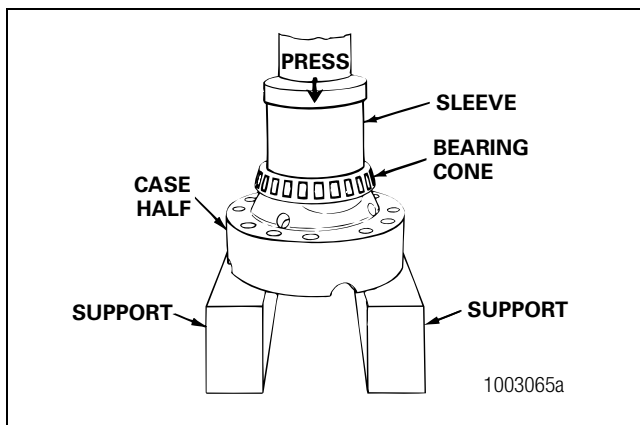

Figure 5.40
8. Use a press and the correct size sleeve to install the bearing cones on both of the case halves. Figure 5.40.